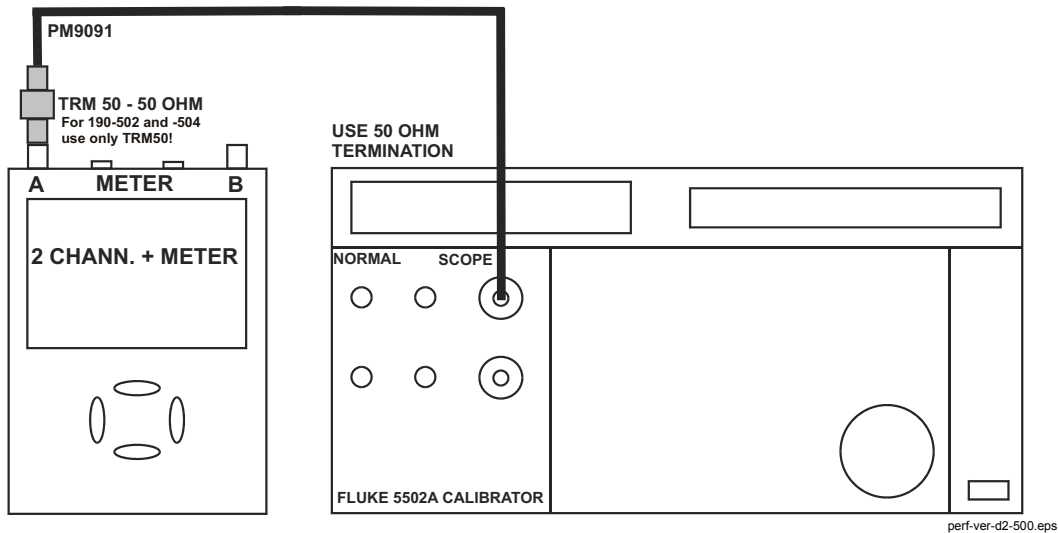

Figure 5-3. 5502A SCOPE Output to Test Tool Input A
6. Connect Ch. A of the Test Tool to the 5502A SCOPE output as shown in Figure 5-3. Use a 50 Ω termination.
1. Connect Ch. A of the Test Tool to the 5502A as shown in Figure 5-3.